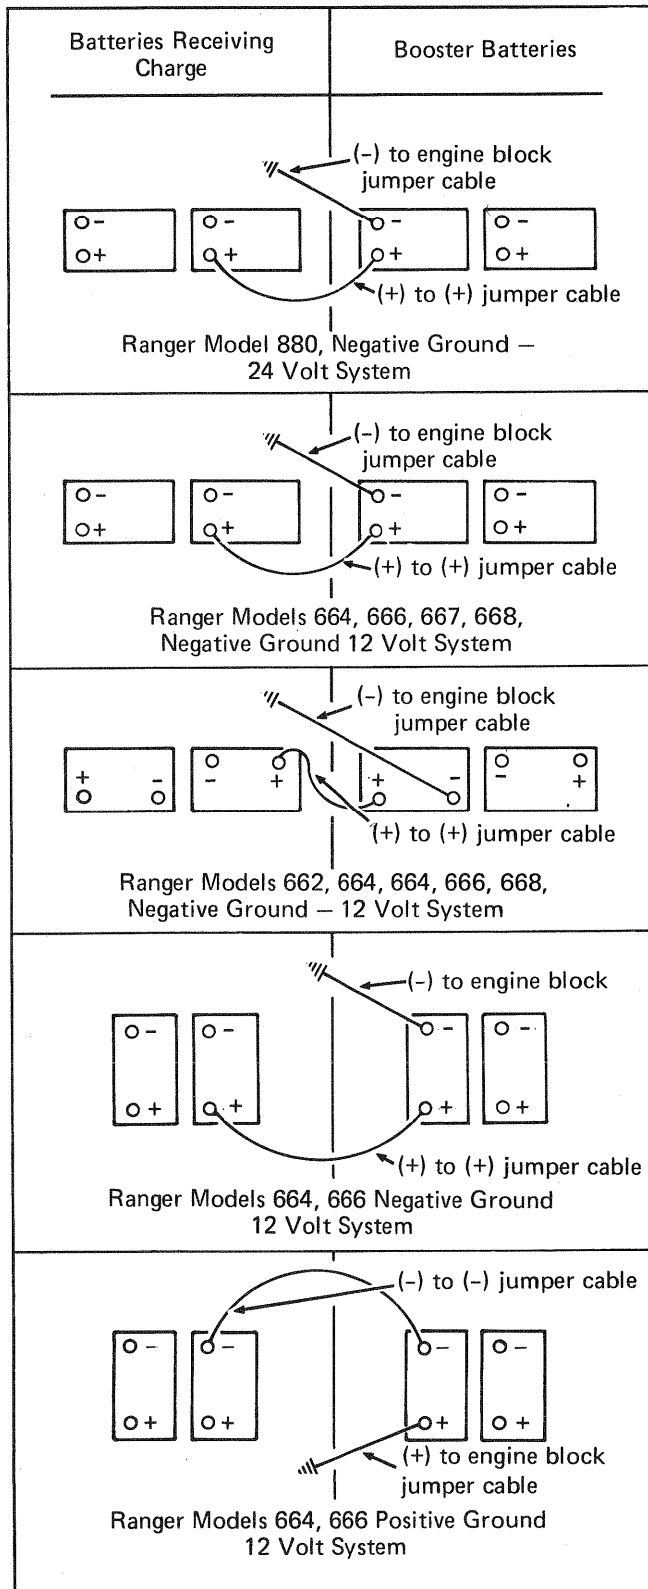

Fig. 14-2 Battery Jump-Start
- a. Attach one end of one jumper cable to the positive terminal of the booster battery (identified by a red colour, "+", "P", or "POS" on the battery case, post or clamp), as shown in Figure 14-2. Attach the other end of the same cable to the positive terminal of the discharged battery.
- b. Attach one end of the second jumper cable to the negative terminal of the booster battery (identified by black colour, "—", "N", or "NEG" on the battery case, post or clamp) as shown in Fig. 14-2. Take care that the clamps do not touch the clamps of the other cable. Connect the other end of the cable to the engine block, alternator or any other accessible metallic part attached to the engine block that is not painted, chrome plate, heavily rusted, or covered with grease. This last connection should be made at least a foot or more from the dead battery so that any sparking when the cable is connected or disconnected is away from any hydrogen gas produced by the battery.
- b. Attach one end of the second jumper cable to the positive terminal of the booster battery (identified by a red colour "+", "P", or "POS" on the battery case, post or clamp) as shown in Fig. 14-2. Attach the other end of the cable to the engine block, alternator or any other accessible metallic part attached to the engine block that is not painted, chrome plated, heavily rusted